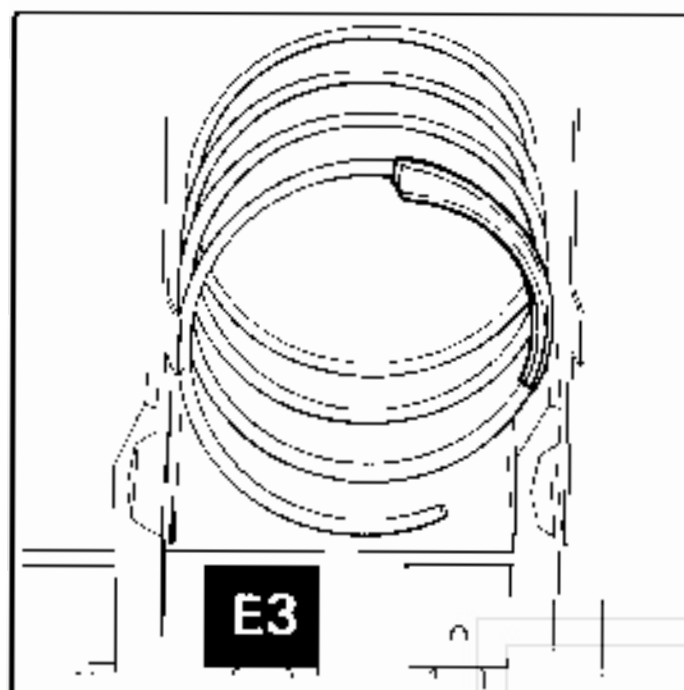

Figure 7. LOCATION OF PRODUCT PUSHER ON SPIRAL.
- PRODUCT PUSHER:** The machine contains enough pushers for you to install a pusher on each candy spiral. This plastic part is designed to push the top of the product forward while it is vending, helping it fall from the shelf. It can also be used with products that have the wrapper end flap on the outside of the package. In this case, the pusher prevents these products from hanging on the spiral by spreading the flap. The pusher is installed approximately 210 degrees from the front end of the spiral with the tab extending forward (see Figure 7).
8. **PRODUCT PUSHER:** The machine contains enough spacers for you to install a pusher on each candy spiral. This plastic part is designed to push the top of the product forward while it is vending, helping to fall from the shelf. It can also be used with products that have the wrapper end flap on the outside of the package. In this case, the pusher prevents these products from hanging on the spiral by spreading the flap. The pusher is installed approximately 210 degrees from the front end of the spiral with the tab extending forward (see Figure 7).